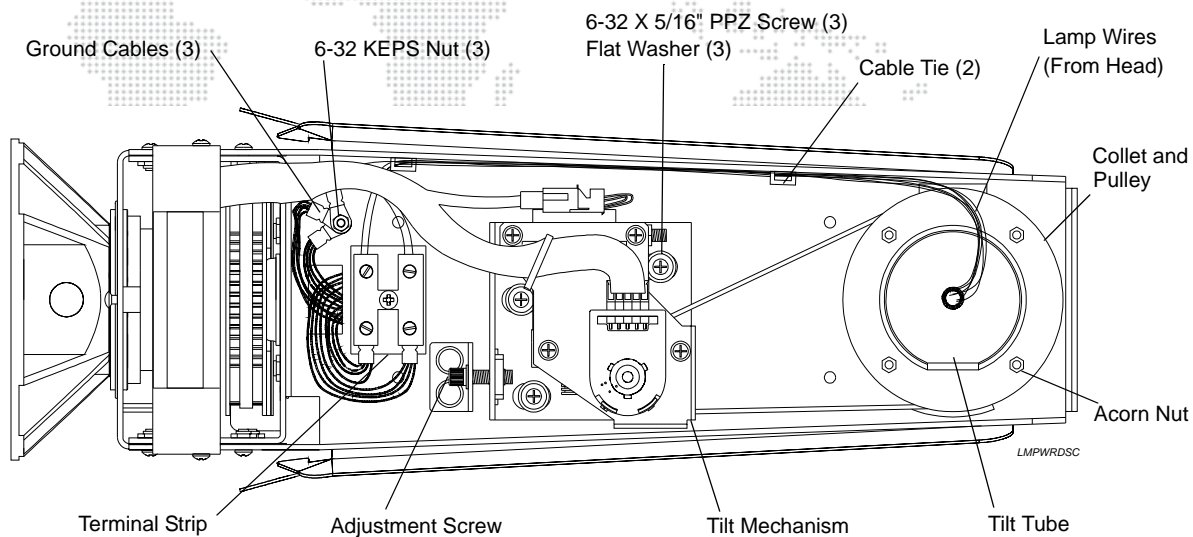

Figure 2-9: Disconnecting Wires at VL5/VL5B Tilt-Side Yoke Leg
- b. At tilt-side yoke leg, using diagonal cutters, remove two cable ties securing lamp and ground wires to yoke leg. **Figure 2-9.**